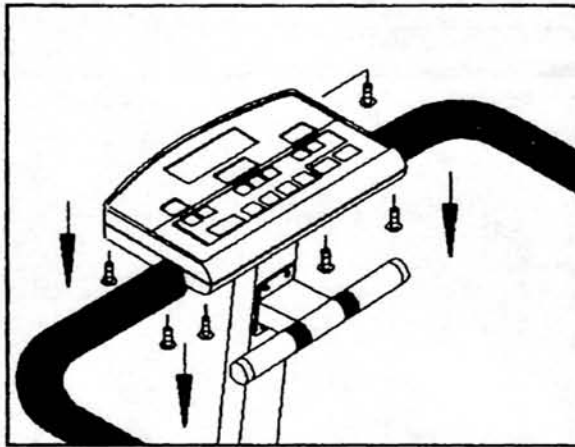

Fig.16-1
1. Disassemble the COVER OF PANEL by removing all screws (see fig.16-1)